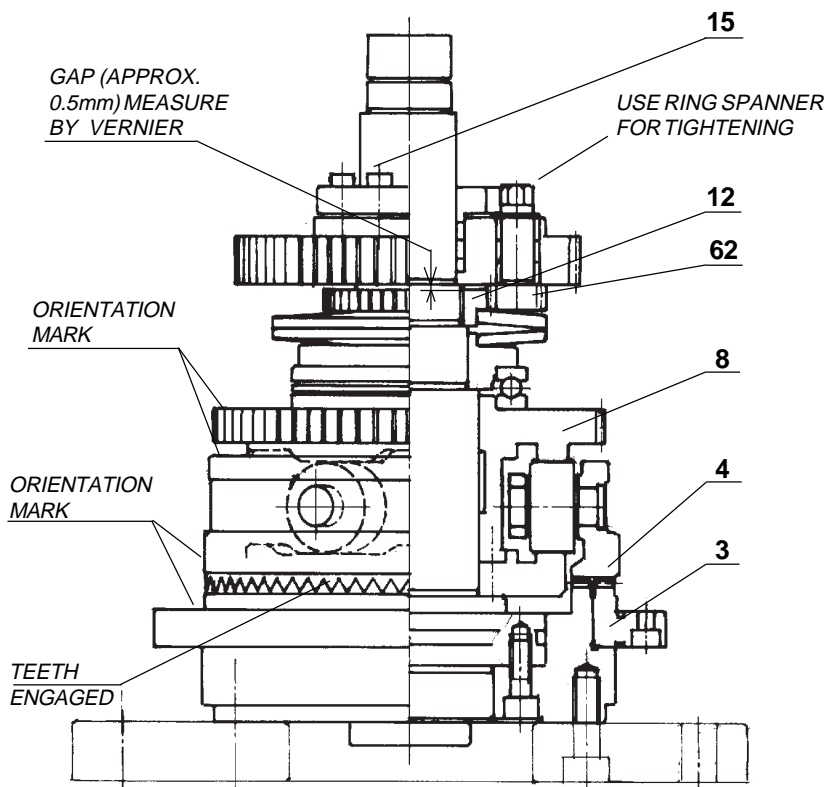

FIG 17.5 'LOADING' OF DISC SPRINGS.
### 16.2 Dismantling of disc spring and drum-cam assembly (fig 17.5)
- \* Considerable force is required to loosen the nut (12). To release the nut, clamp the index gear assembly (fig 17.5) back in position. This will engage the pinion (162) onto the gear teeth of the nut (12). Now, the nut can be released by turning the pinion with the help of a spanner.
17.18 Final sub assembly. (fig 17.5): Align orientation marks on fixed coupling (3) and sliding coupling (4). Also align orientation marks on cam gear (8) and sliding coupling (4).